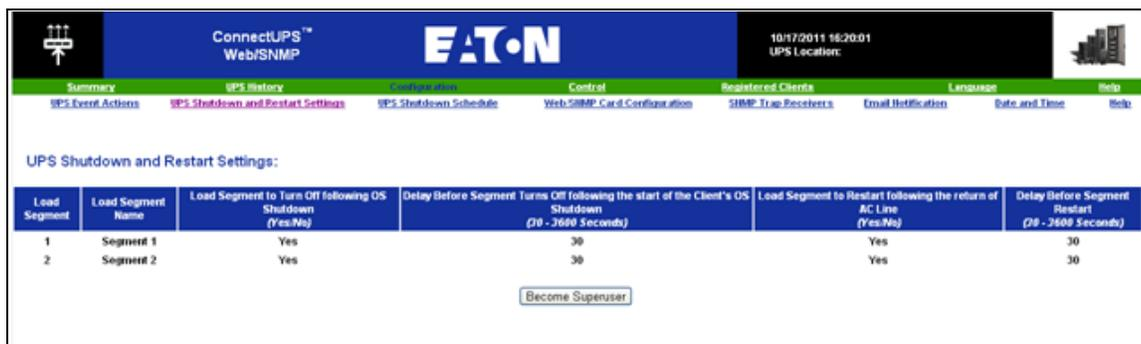

Figure 120. UPS Shutdown and Restart Settings
- For ConnectUPS-X Slot or ConnectUPS-BD network cards, the Network Management Card default shutdown configuration is available from **Configuration > UPS Shutdown and Restart Settings** (see Figure 120).
- For ConnectUPS-X Slot or ConnectUPS-BD network cards, the NMC default shutdown configuration is available from **Configuration > UPS Shutdown and Restart Settings** (see Figure 120)